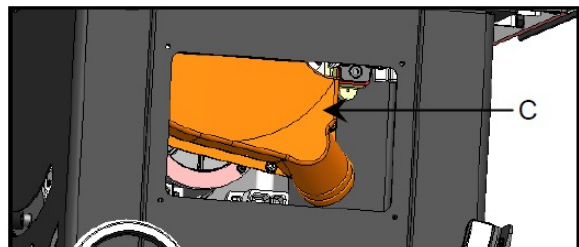

Figure 33
To access the dust hood, remove the storage box (B) shown in figure 31 above, clean and remove dust and debris from the dust hood (C) in figure 33.